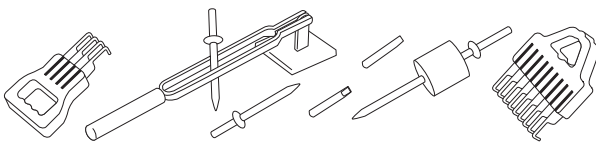

Figure 505.3
4. You have a choice of five pulling methods and a shrinking tip (Figure 505.3). The damaged area will be determined which electrode is to be used. Heavily damaged panels or long creases can be repaired using the wiggle wire in conjunction with the bear claws. Pulled by hand with the four finger or mechanically with the nine finger claw. By using the Bear Claws your pull power is spread over a wider area. The quality of finish you want will determine how and with which pull rod you finish the metal. It is possible by carefully pulling and shrinking to finish a panel repair and not have to use a dolly or hammer, only a file.